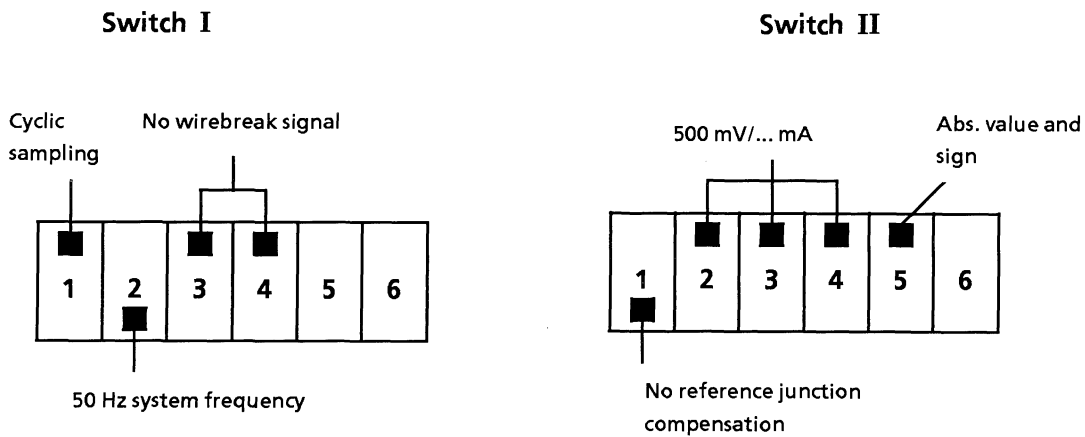

Figure 10.39 Setting Mode Selectors I and II
- ▶ Set the mode selectors at the rear of the module as follows (Figure 10.39):